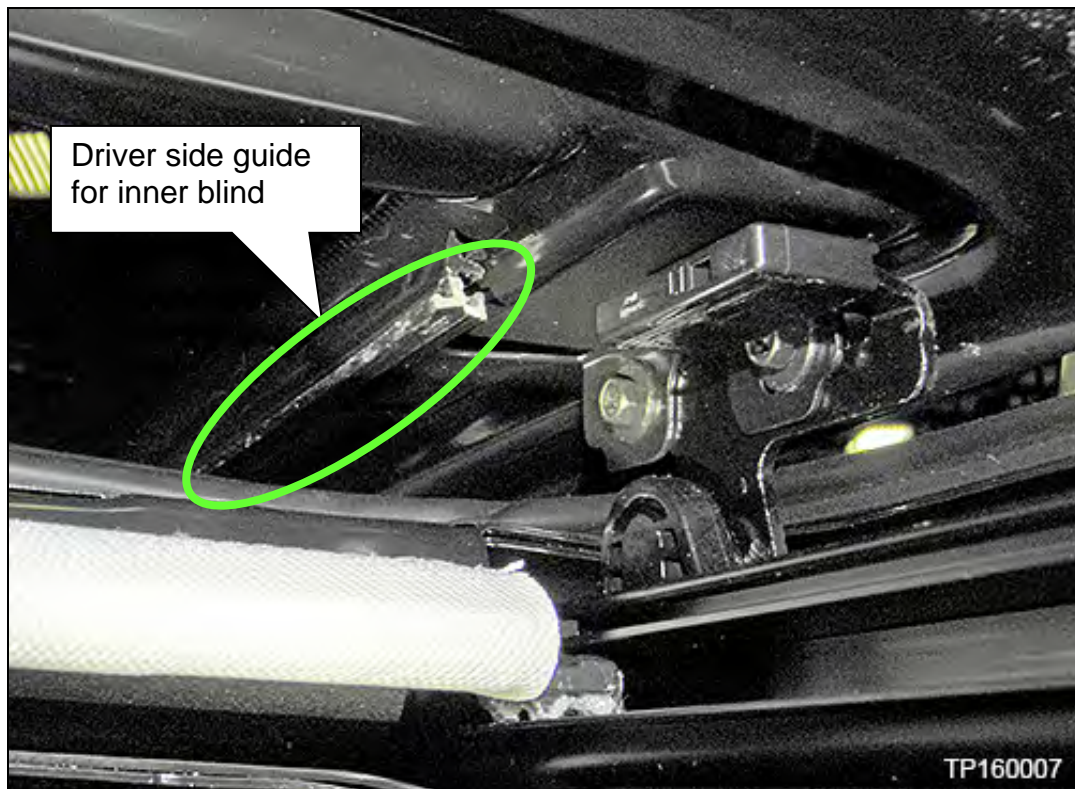

Figure 11
a. Slide the top of the left and right inner blinds onto their guides (Figure 11).